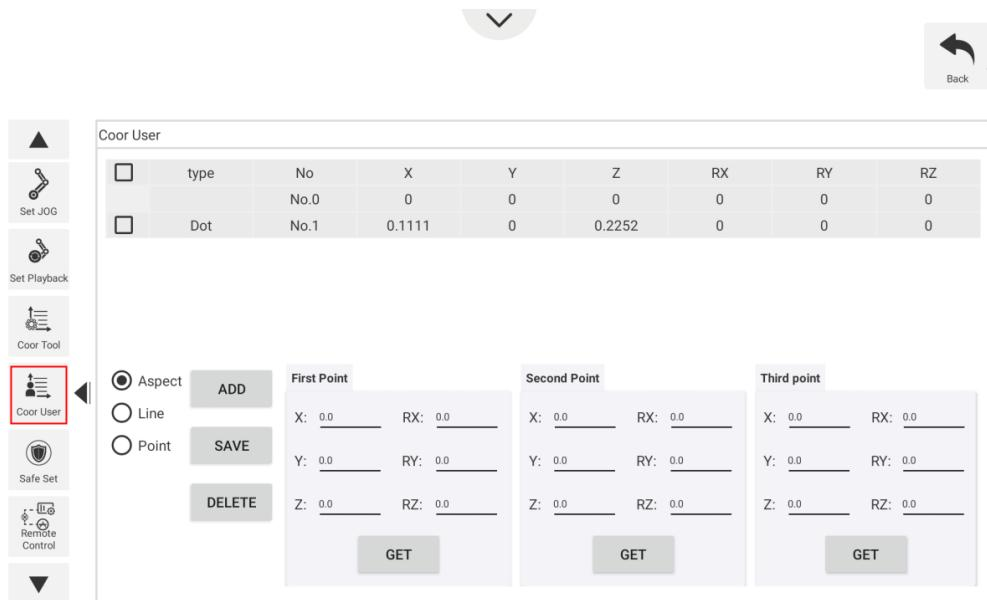

Figure 3.7 User coordinate system
**Step 1** Click **Coor User** on the **Setting** page. As shown Figure 3.7.